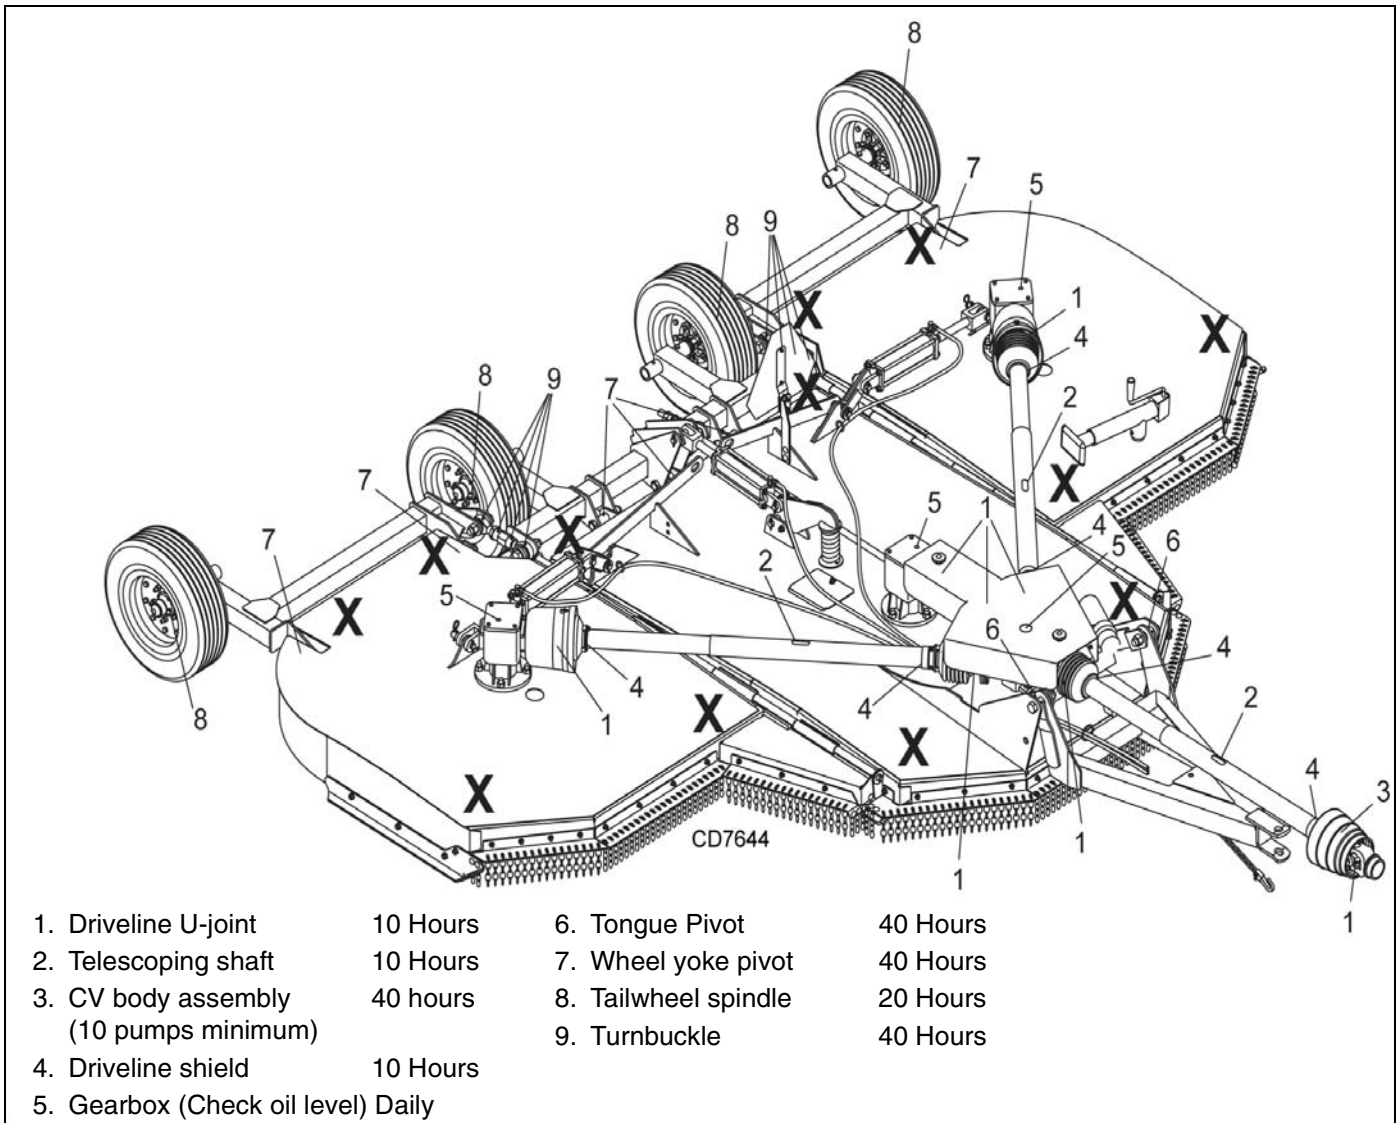

Figure 5. Jackstand Placement and Lubrication Points
1. Jackstands with a load rating of 1000 lbs. or more are the only approved blocking device for this cutter. Install jackstands (shown by Xs in Figure 5) under the cutter before working underneath unit.
See Figure 5 for lubrication points and frequency or lubrication based on normal operating conditions. Severe or unusual conditions may require more frequent lubrication.
2. Raise cutter and block securely (see Figure 5).
3. Align crossbar (10) with blade access hole in the cutter frame. Remove nut and lock washer. Carefully drive blade pin (9) out of crossbar.